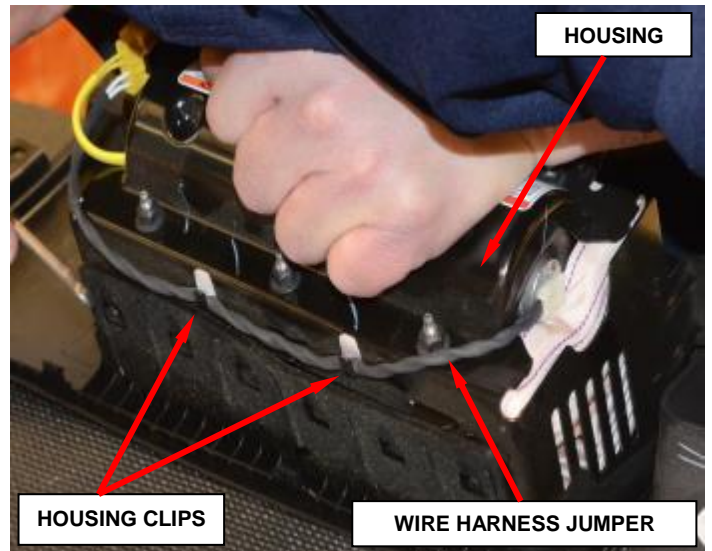

Figure 18 - Wire Harness Clips
- b. Disengage the wire harness jumper from the housing clips in two places (Figure 18).